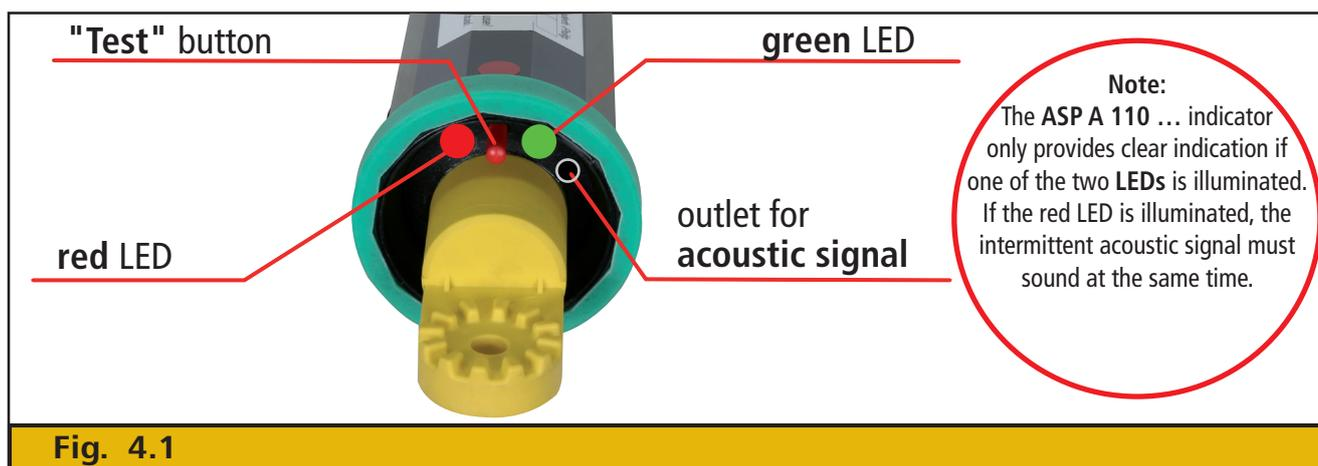

Fig. 4.1
- If **"Voltage present"** is indicated during testing, the indicator is ready for operation for another **120 seconds** (see Fig. 4.1).